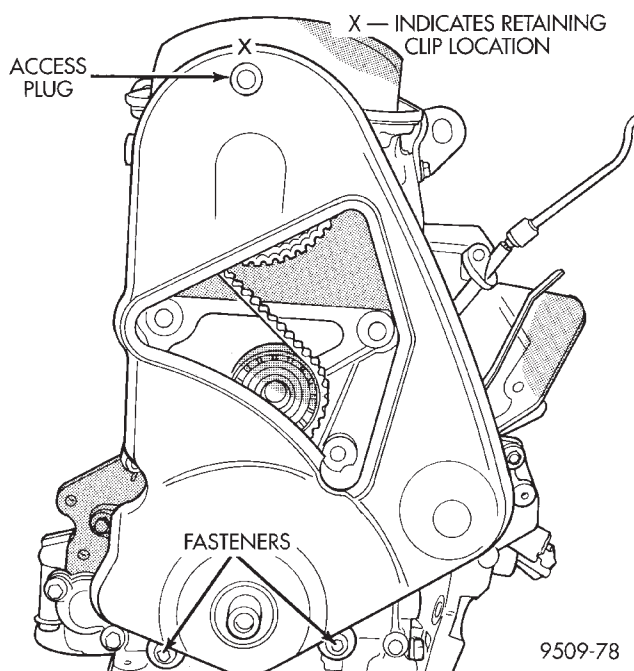

Fig. 51 Timing Belt Cover
(7) Remove front timing belt cover (Fig. 51).